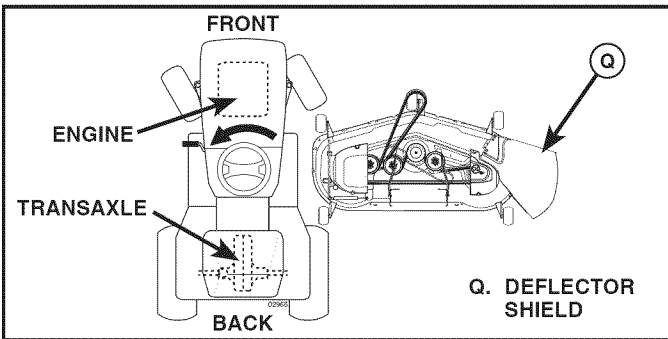

Fig. 31
3. TURN STEERING WHEEL LEFT AND POSITION MOWER (See Fig. 31)
- Turn steering wheel to the left as far as it will go and position mower on right side of tractor with deflector shield (Q) to the right.